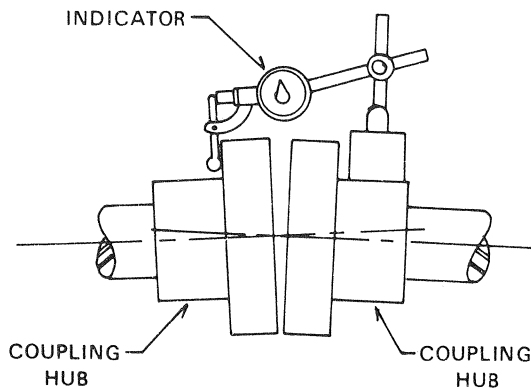

FIGURE 2-8 TESTING ANGULAR ALIGNMENT OF MOTOR AND GENERATOR SHAFTS
2.12.2 Install coupling hubs on generator and drive shafts in accordance with the installation procedures supplied by the manufacturer of the coupling. Then check for angular misalignment by scribing a reference mark on the coupling hub at the button or finger of the indicator to mark its position on the hub. Rotate both shafts simultaneously, keeping the finger or button of the indicator at the reference marks on the coupling hub. Note the reading on the indicator dial at each one-quarter revolution. Refer to figure 2-8 for test setup.